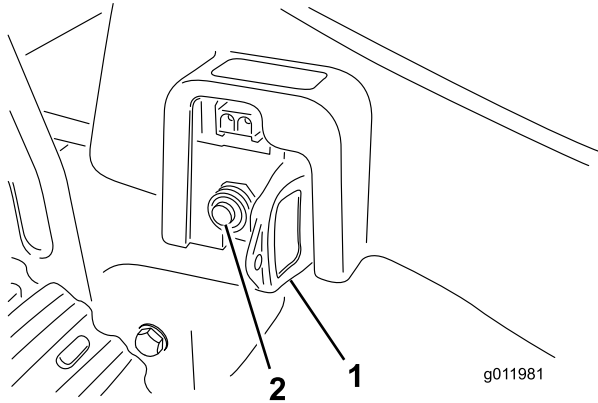

Figure 11
2. Wait 30 seconds, then push in the circuit breaker button (Figure 11).